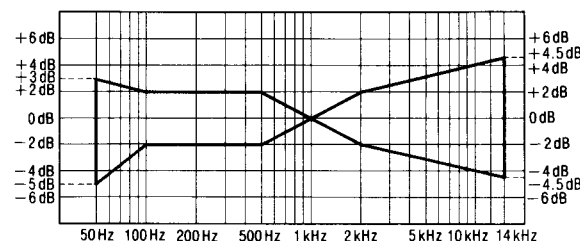

Fig. 9
6. After that increase the signal recorded on CrO₂ blank tape (QZZCRX) and metal blank tape (QZZCRZ) up to 14kHz and adjust in the same way as mentioned above and check that the frequency level is within the range shown in Fig. 9.